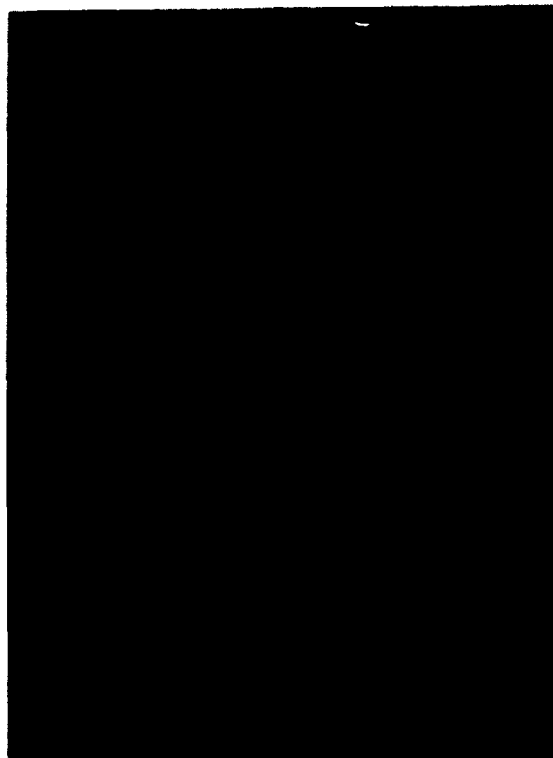

Figure 3-1. Chronograph bottom view showing air filters removed.
d. Air Filters. To clean the air filters located at the bottom of the radar chronograph (fig. 3-1) loosen the six dzus fasteners holding each air filter retaining plate to the rear case section and remove the filters; then proceed to the following:
- (1) Immerse air filters in trichloroethane solvent and agitate to aid cleaning action.
- (2) Remove filters from solvent and shake to remove excess solvent.
- (3) Allow filters to dry, then spray a small amount of light lubricating oil into filter mesh.
- (4) Allow excess oil to drain off before reinstalling filters.